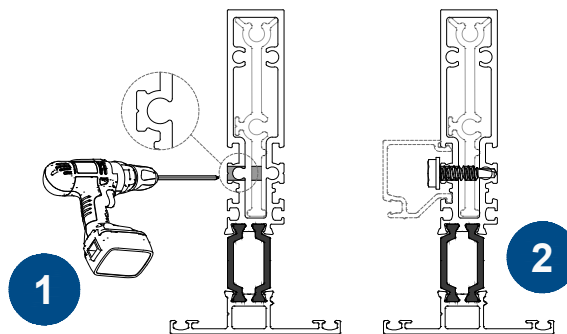

FIG. 5
- Using V-Groove indicator drill no larger than #12 pilot holes through one side of the vertical mullion and reinforcement at 16" O.C. or according to project specifications. **See FIG 5.**
- Attach reinforcement using #10 Fasteners. **See FIG 5.**